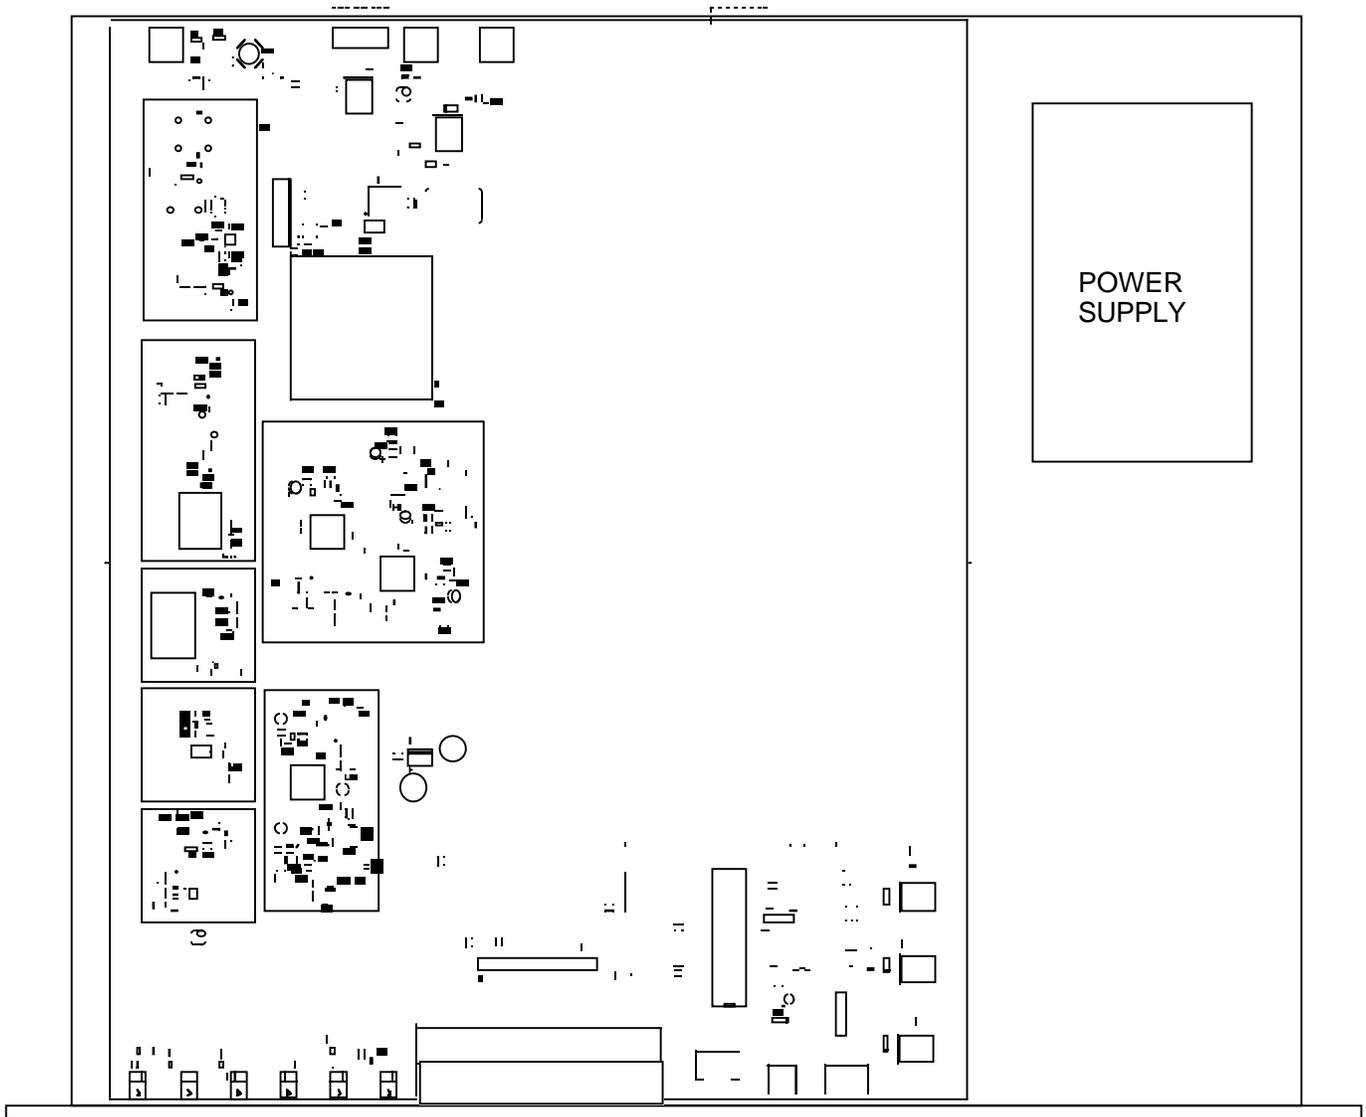

FIGURE 2.1 Mechanical Assembly
2.1 Mechanical - The 2015-0510 consists of one RF/Controller PCB housed in a 1 RU (1 3/4 inch high) by 16 inch deep chassis. The unit is powered by a 100-240 \pm 10% VAC power supply, and housed in a 1 3/4" X 19" X 16" rack mount chassis. The 2015-0510 can be secured to a rack using the 4 holes on the front panel. Figure 2.1 shows how the 2015-0510 is assembled.